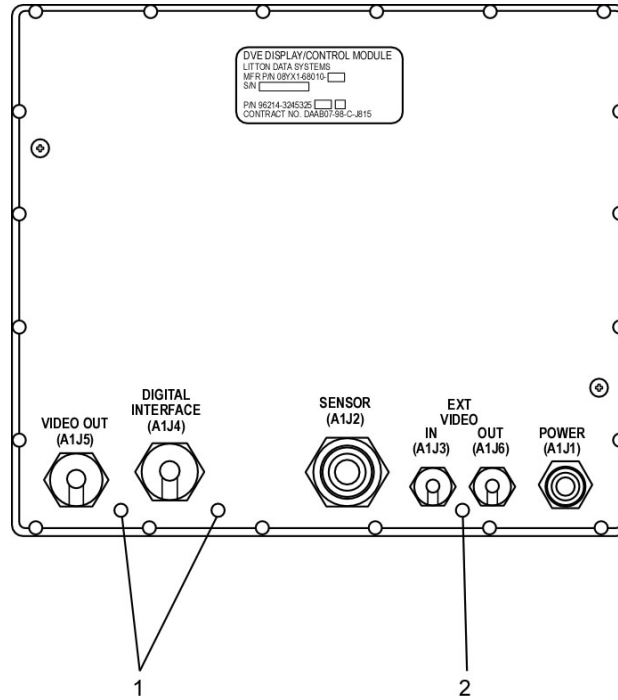
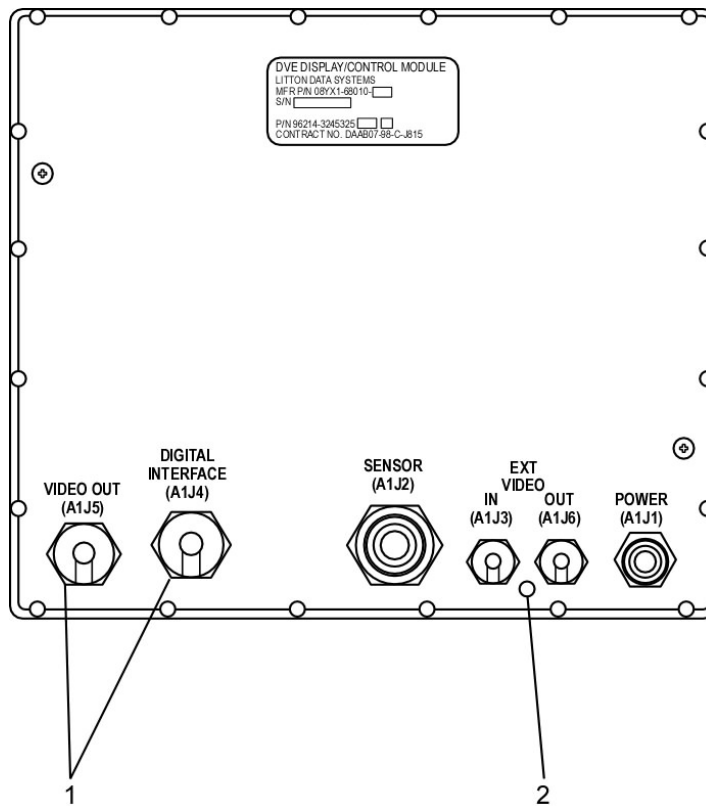

Figure 3-2. Connector Covers (Version 1)
Figure 3-3. Connector Covers (Version 2)
If backside of DCM is reflected in Figure 3-2 use knob PN 68054-1, if backside of DCM is reflected in Figure 3-3 use knob PN 918575-001.
3-5 ELECTRICAL CONNECTOR COVERS (A1J4 OR A1J5) (Figure 3-2 and Figure 3-3)
Look at the backside of the DCM to determine appropriate Removal/Replacement procedures using Figures 3-2 and 3-3.
1. For Figure 3-2
- a. Using a #1 cross tip screwdriver, remove screw (1) holding electrical connector cover chain.
2. For Figure 3-3
- b. Install screw (1) in end of electrical connector cover chain.
- c. Using #1 cross tip screwdriver, install screw (1) in back of DCM.
3-6 BNC CONNECTOR COVERS (A1J3 OR A1J6) (Figure 3-2 and Figure 3-3)